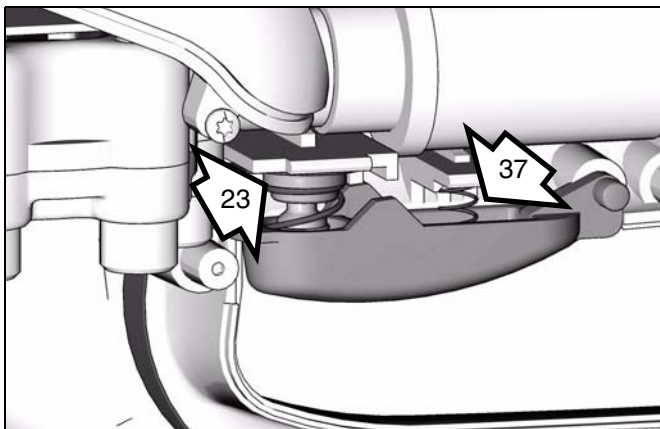

FIG. 50
Make sure that the trigger plunger (23) is centered with the circular trigger switch. Also ensure that the trigger spring (37) is slid fully into position. Make sure that all other meter parts are positioned securely and in the correct location. See FIG. 50.